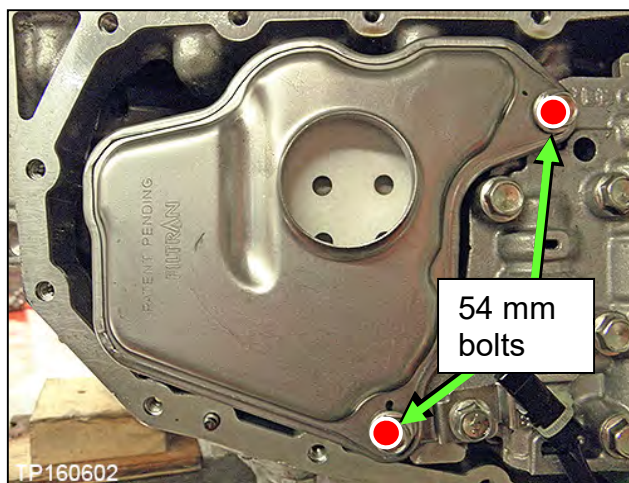

Figure 159
121. Install the new oil strainer with its new O-ring seal with two (2) bolts (Figure 159).